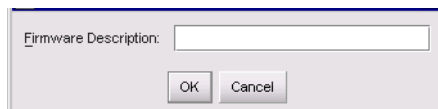

Figure 58: New Firmware Description dialog box
5. Choose the desired firmware version file (downloaded in step 1) from the on HAFM appliance backup drive, CD-ROM drive, or hard drive. Verify that the correct directory path and filename display in the **File name** field and click **Save**. The New Firmware Description dialog box displays (Figure 58).
3. Choose **Maintenance > Firmware Library**. The **Switch Firmware Library** dialog box displays (Figure 58).